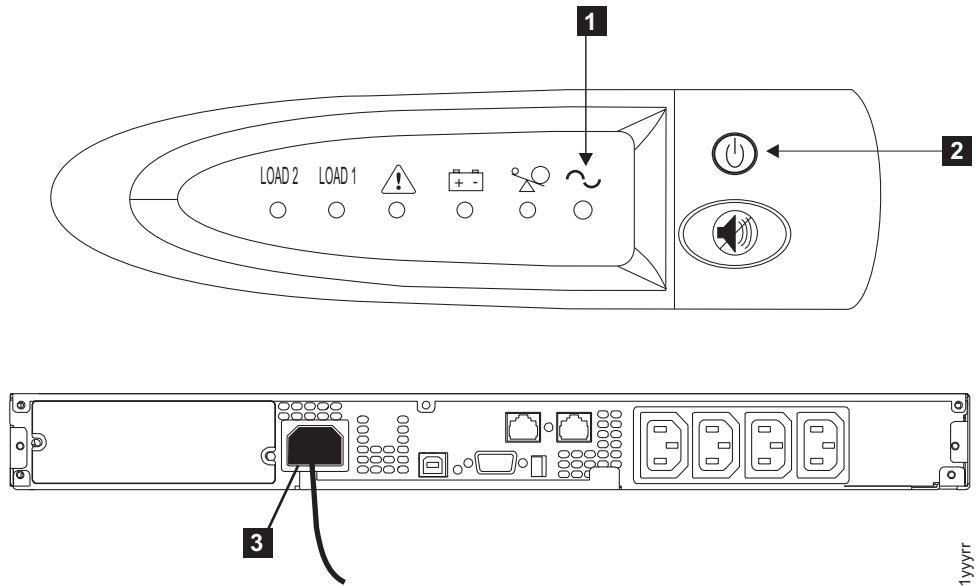

Figure 282. Front and back panels for the 2145-1U uninterruptible power supply
2. Press and hold the on/off button **2** until the power light **1** is extinguished (approximately five seconds). On some versions of the 2145-1U uninterruptible power supply, you need a pointed device, such as a screwdriver, to press the on/off button. The 2145-1U uninterruptible power supply enters standby mode, with all indicators off. Figure 282 on page 606 illustrates the front and rear views of the 2145-1U uninterruptible power supply.